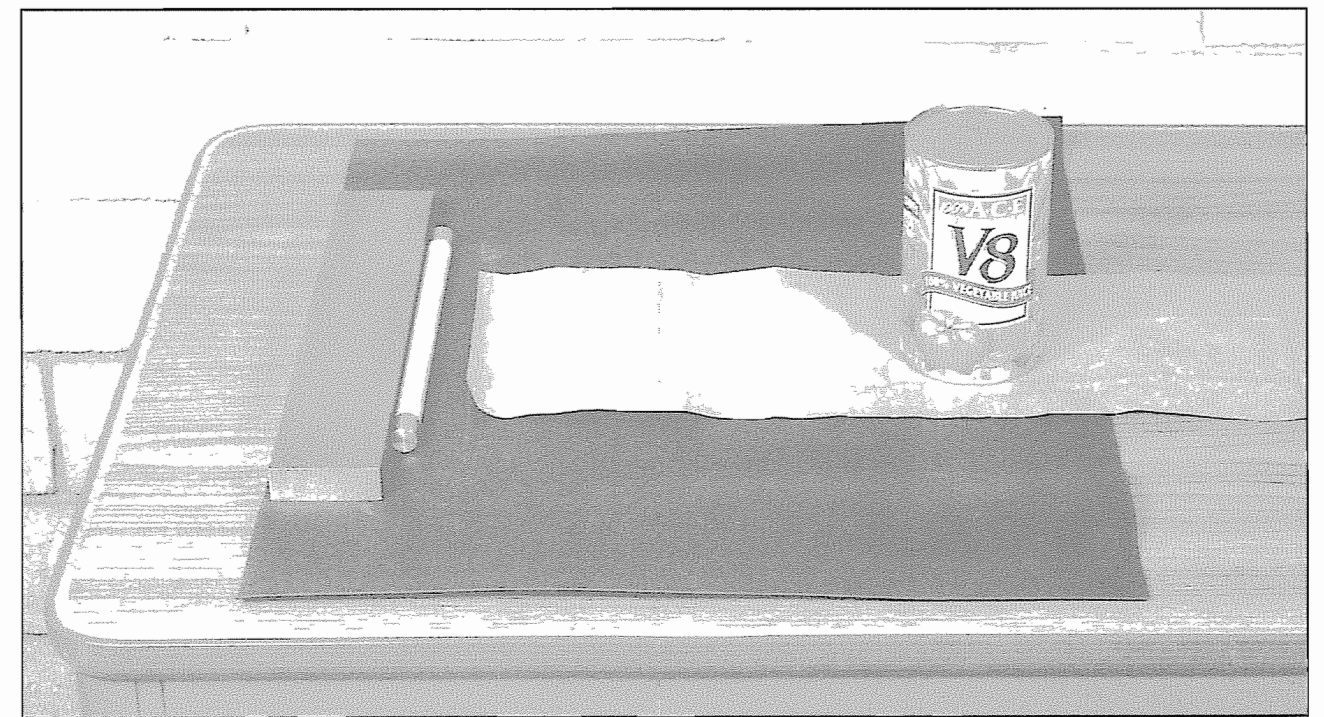

**Figure 8-6.** The rolling setup for small tubes. A vinyl pad forms the work surface. A heavy metal block and a carpenter's square are used to align the paper.
3. Lay the vinyl pad (the upside down hallway runner) on a flat, washable surface. Lay the steel block on the vinyl, and lay the carpenter's square against the block (**Figure 8-6**).